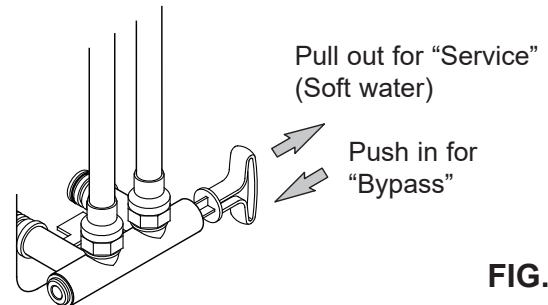
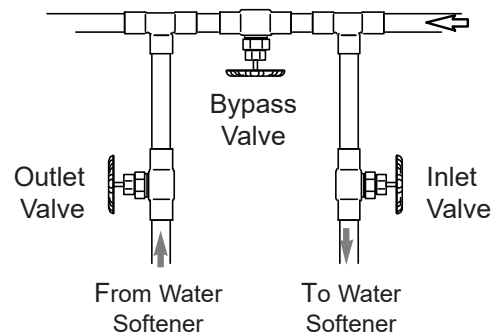

FIG. 7
FIG. 8
Always install either a single bypass valve (provided), as shown in Figure 7, or, if desired, parts for a 3 valve bypass system (not included) can be purchased and assembled, as shown in Figure 8. Bypass valves allow you to turn off water to the softener for maintenance if needed, but still have water in house pipes.
**CAUTION:** The house cold water pipe (metal only) is often used as a ground for the house electrical system. The 3-valve bypass type of installation, shown in Figure 8, will maintain ground continuity. If you use a plastic bypass valve at the unit, continuity is broken. To restore the ground, do the following:
3. Place bypass valve(s) in “bypass” position (see Figures 7 & 8). On a single valve, slide the stem inward to bypass. On a 3-valve bypass, close the inlet and outlet valves and open the bypass valve.